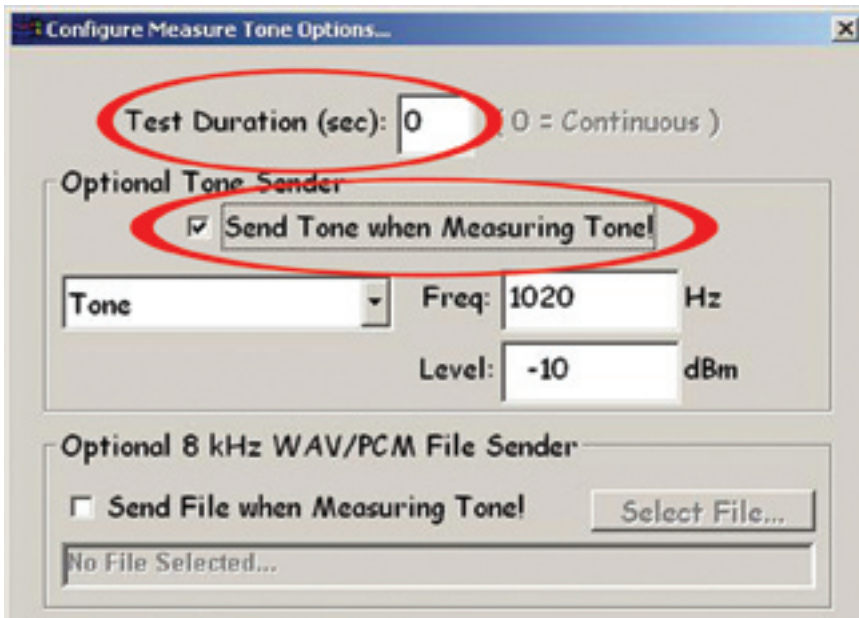

Figure 36
3. Click the configure button next to the test type selection menu. This action launches the send tone configuration window. Set the test duration to 0 seconds making the test a continuous run. Then click the check box “Send Tone when measuring Tone” (see figure 36). Click save to close and return to the main test screen.